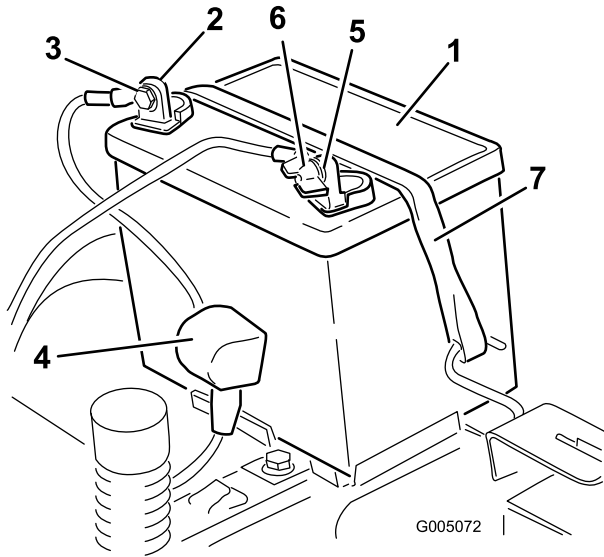

Figure 41
4. Disconnect the negative (black) ground cable from the battery post (Figure 41). Retain all fasteners.
- Slide the rubber cover up the positive (red) cable. Disconnect the positive (red) cable from the battery post (Figure 41). Retain all fasteners.
- Remove the battery hold-down (Figure 41) and lift the battery from the battery tray.
- Position the battery in the tray with the terminal posts toward the operating position (Figure 41).
- Secure the battery with the hold-down (Figure 41).